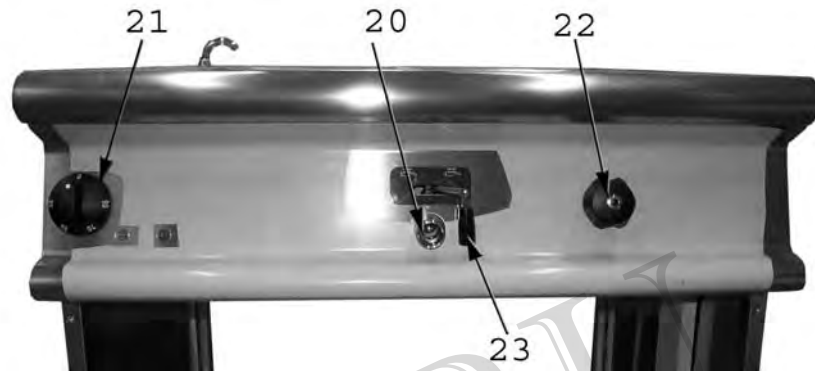

Fig. 3
First of all, check that the drain valve is closed (item 21 in Fig. 3),